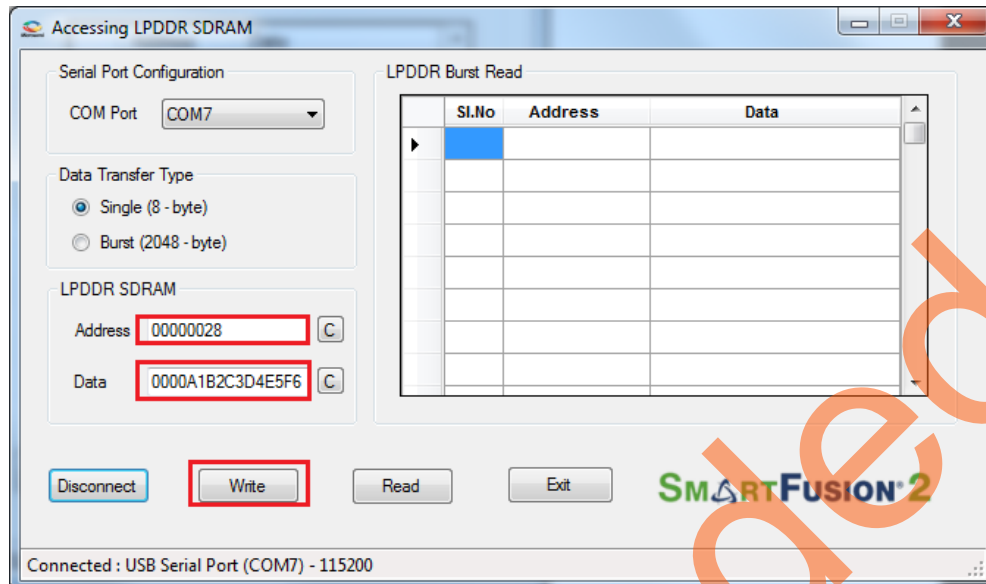

Figure 21 • Single Write Operation
5. Figure 21 shows the **Address** and **Data** values entered for a Single Write operation.